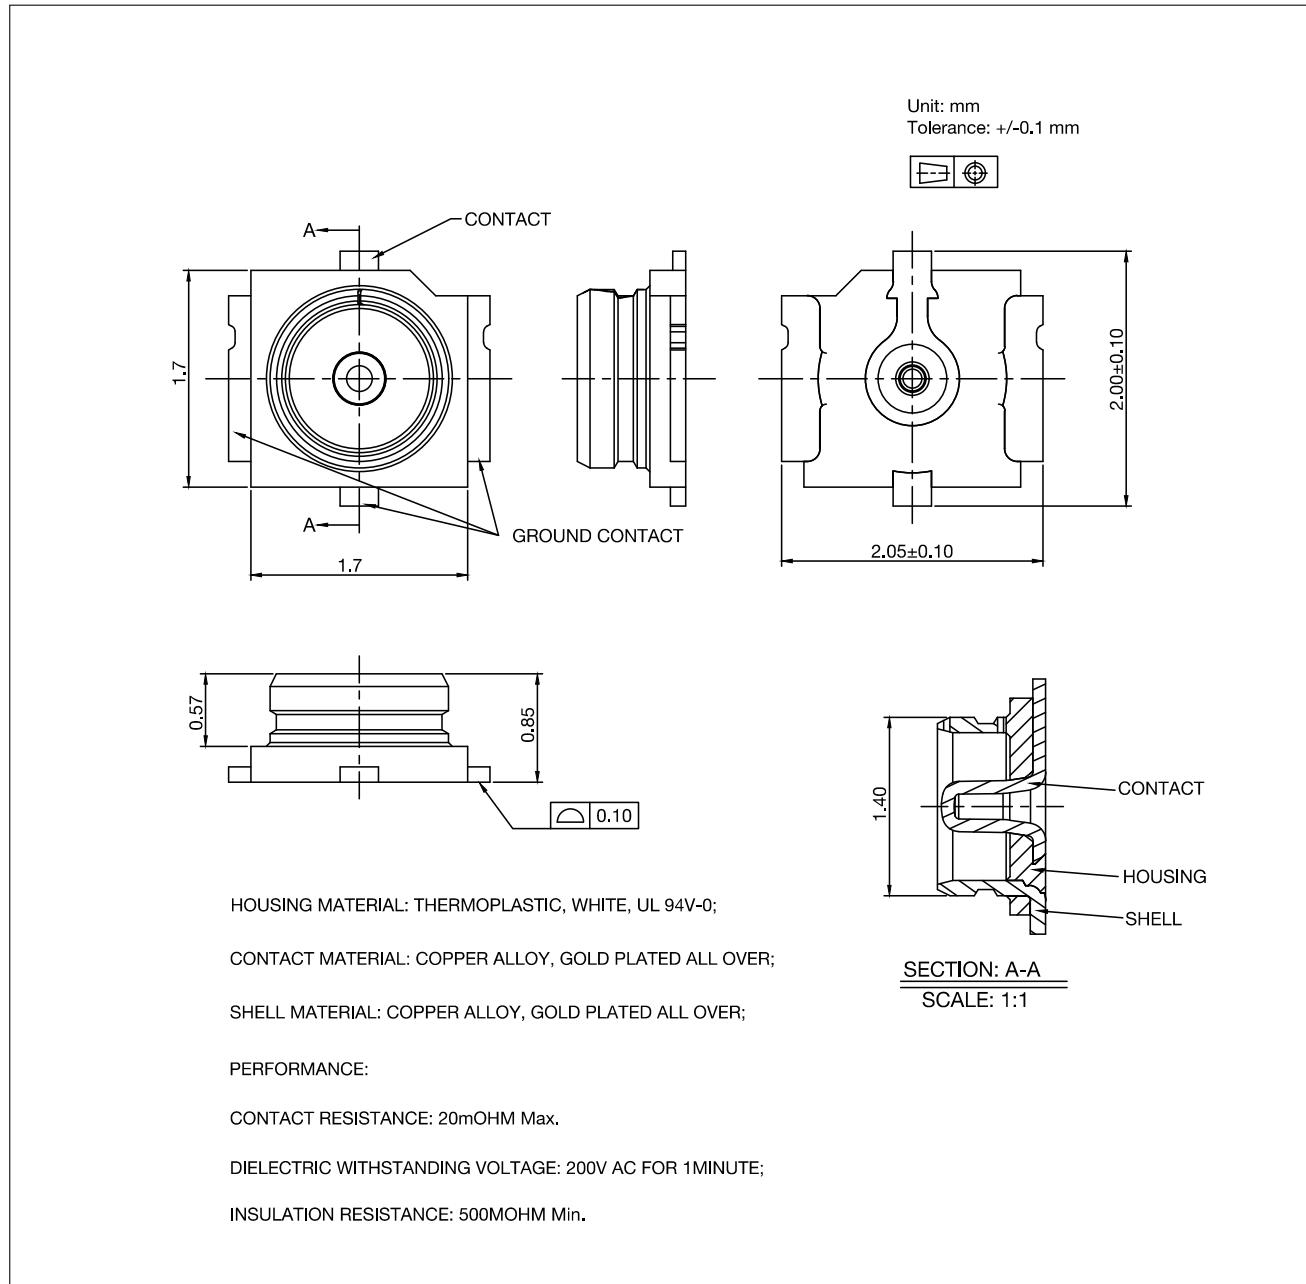

Figure 13: Dimensions of External Antenna Connector
ESP32-MINI-1U uses the third generation external antenna connector as shown in Figure 13. This connector is compatible with the following connectors:
- The connector matches the specifications shown in Figure 13 *Dimensions of External Antenna Connector*